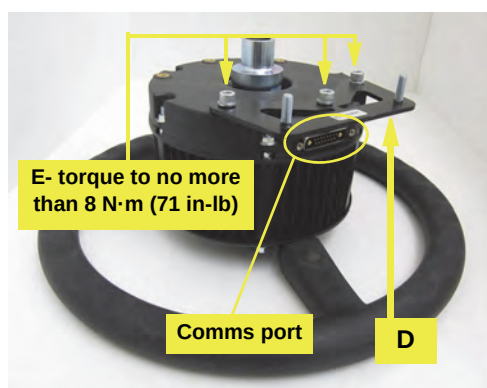

Figure 2a: ‘T’ bar mounting installed
- Using hardware **E**, attach the anti-rotation ‘T’ bar mount **D** (studs upward) to the base of the steering wheel assembly on the same side as the communications port (Figure 2a).
- Using nuts **G** attach ‘T’ bar **F** to **D**. Torque all fasteners to **8 N·m (71 in-lb)** (Figures 2a and 2b).